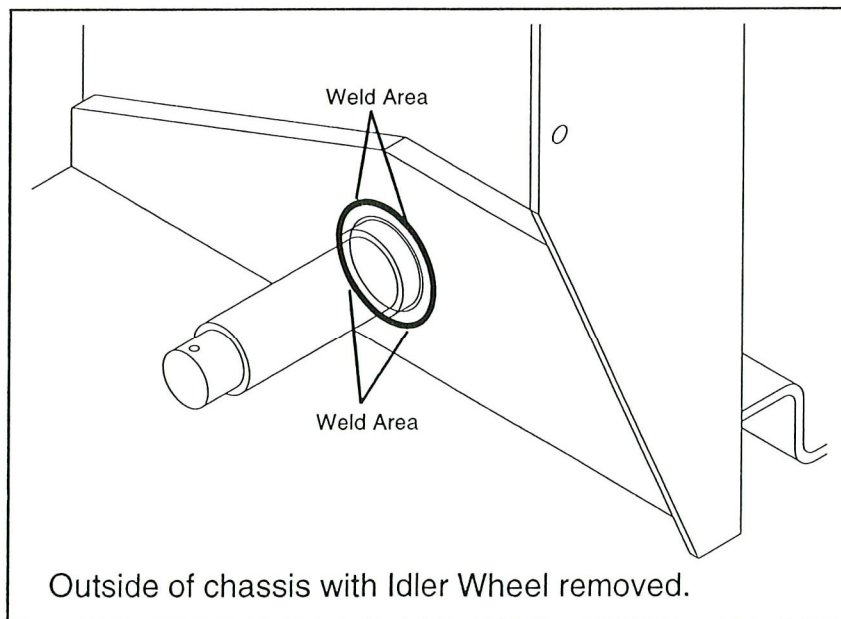

Figure 2
5. Weld spindles to chassis as instructed (Figure 2).